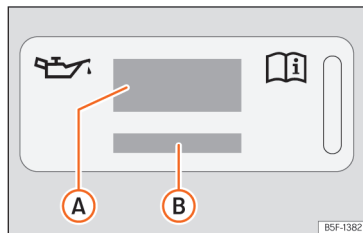
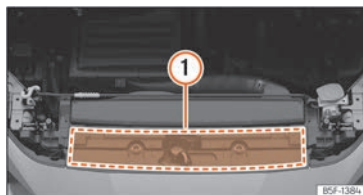

Fig. 209 In the engine compartment: engine oil label
Fig. 210 In the engine compartment: area where the engine oil label is located
Key to the >>> Fig. 209:
If the engine oil has to be topped up, use one of the oils shown on the label >>> Fig. 209. The label with the prescribed standard is located at the front of the engine compartment >>> Fig. 210
- If the label showing the engine oil specifications is missing >>> **Fig. 209**, please contact a specialist workshop.